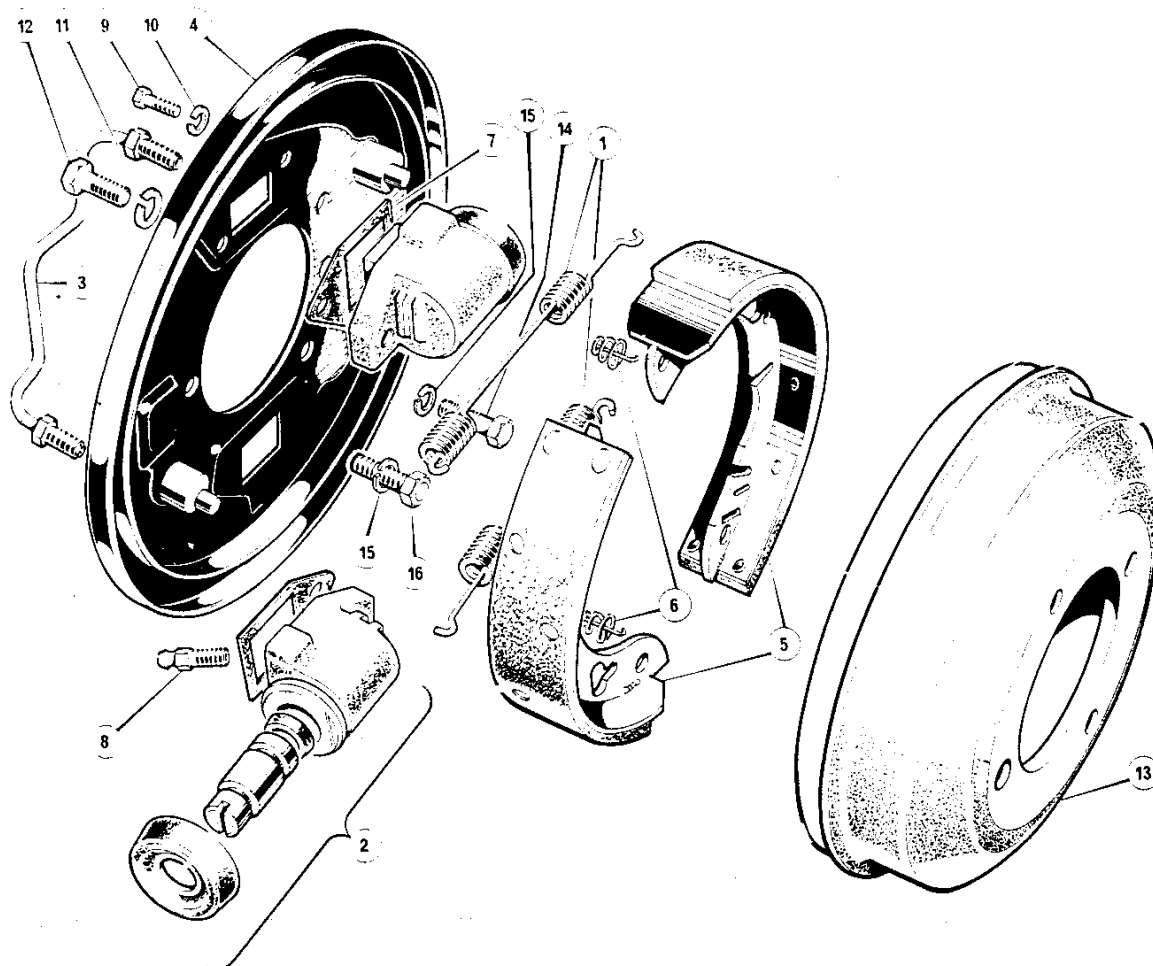

Figure 4 Front brake - exploded view
1. Attach new return springs to the new shoes, ensuring the springs are correctly located and positioned such as they are between the shoe webs and the brake plate on assembly (Figure 4)
To remove (Figure 4)